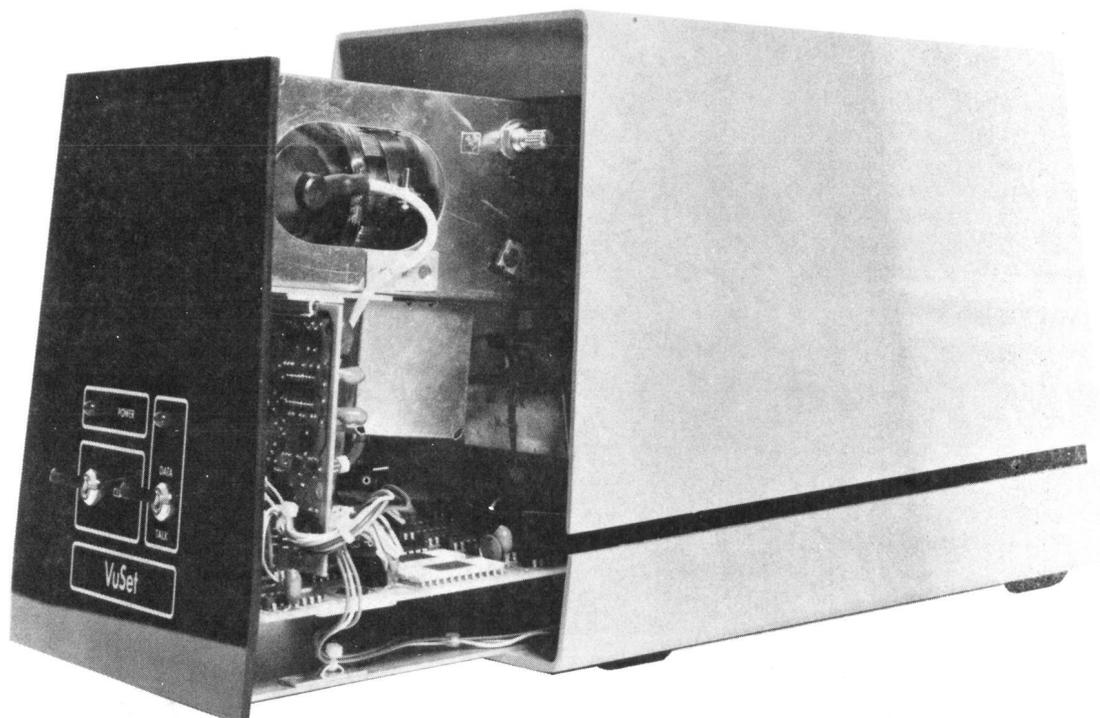

Figure 21, Removing Chassis From Housing
- f) Slide the terminal chassis out the front of the housing. (See Figure 21)